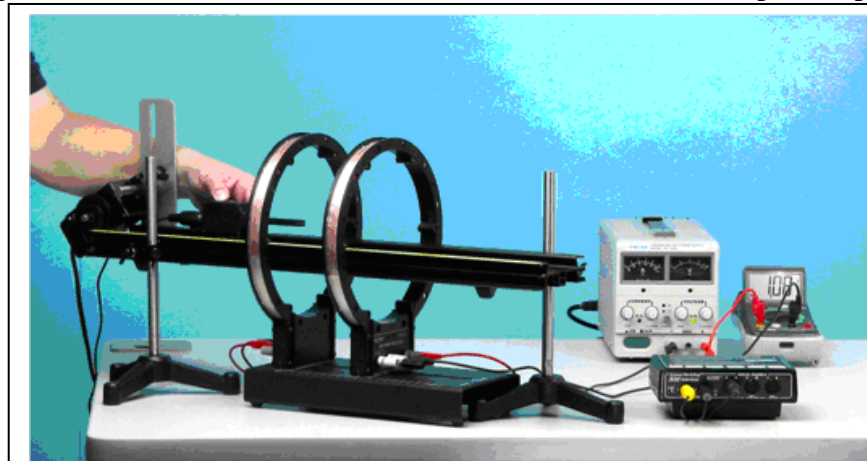

Figure 6: Helmholtz Coil
1. Attach a second coil to the Helmholtz Base at a distance from the other coil equal to the radius of the coil (this makes $d = R$) in Eq. (2). Make sure the coils are parallel to each other. See Figure 6.